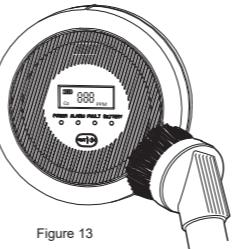

Figure 13
- Clean the detector monthly with home vacuum cleaner along with a soft brush (refer to Figure 13).